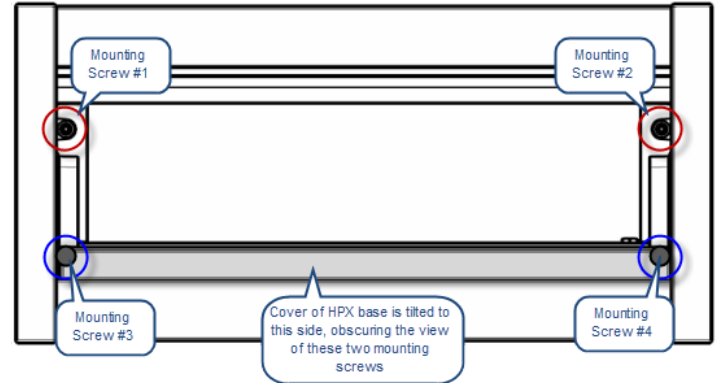
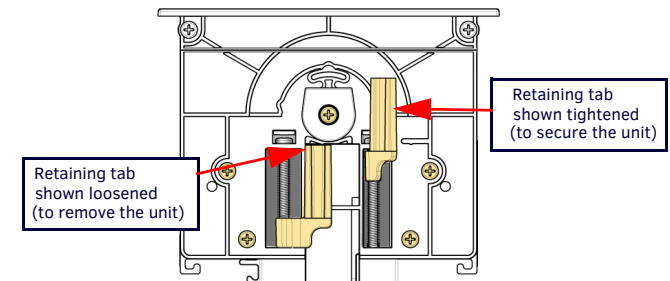

FIG. 7 HPX BASE ASSEMBLY (SHOWN MOUNTED) - MOUNTING SCREWS LOCATIONS
FIG. 8 HPX BASE ASSEMBLY (SHOWN MOUNTED) - MOUNTING SCREWS LOCATIONS
- Tighten the four mounting screws (FIG. 7) located inside and at each end of the HPX base assembly, to rotate the retaining tabs (FIG. 8) into locking position under the mounting surface.
- Loosen the four mounting screws located inside and at each end of the HPX base assembly (FIG. 7), in order to rotate the retaining tabs from under the mounting surface.
FIG. 8 provides a cutaway view of the End Cap, showing the retaining tabs highlighted in both the loose position and the tightened (secure) position.